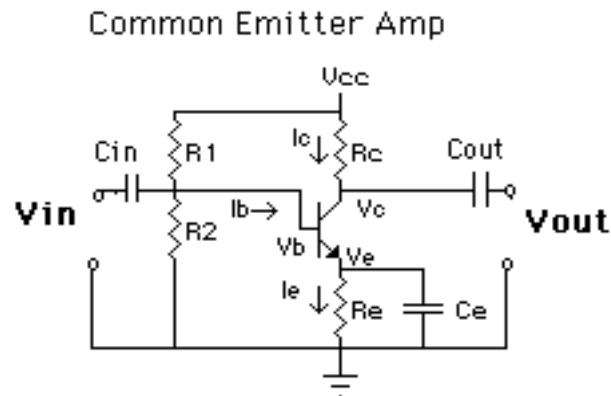

Fig. 1
A general purpose design for the CE amp is given in Fig. 1.
3) We now need to decide what the maximum collect current (I_C) we will allow. From the spec sheet 4 mA looks reasonable. Applying Kirchhoff's law to the circuit in Fig. 1 yields the following load line (I_C vs. V_{CE}) equation: